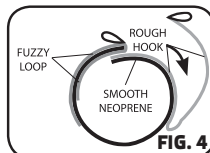

FIG. 4
- Wrap the neoprene piece (the blue side should be positioned against the skin) around the wrist. Attach the black hook and loop pieces together, followed by the blue hook and loop pieces. The fuzzy piece should be sandwiched between the two pieces of hook (fig. 4). Be sure to overlap at least one inch (3 cm).